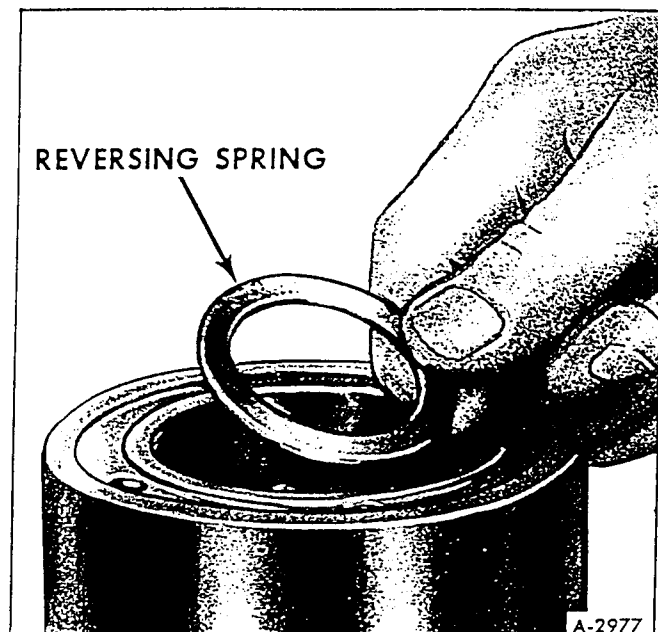

Figure 24 – Removing Reversing Spring
3. Lift reversing spring from actuating valve (fig. 24).